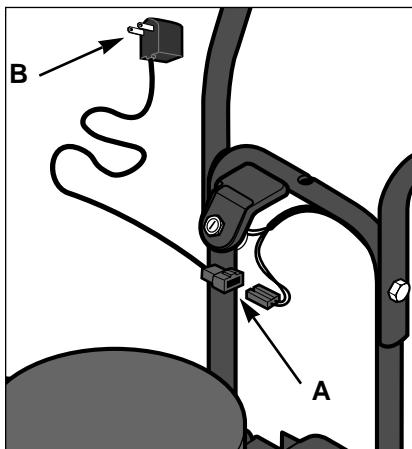

Figure 5-15: Use the recharger shipped to you to charge the battery.
- Connect the battery charger shipped to you to the trimmer/mower wire harness (A, Figure 5-15). The terminals should be snugly connected.
- Plug the recharger (B, Figure 5-15) into a grounded 120-Volt outlet.